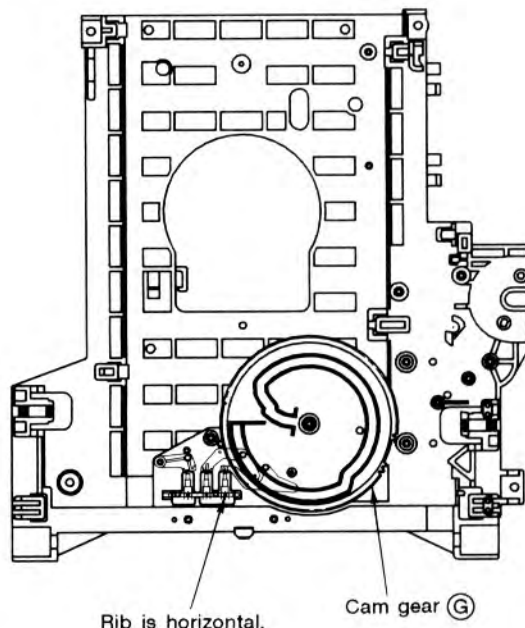

Fig. 2-9
2. Insert the cam gear ③ upon directing the rib horizontally as shown in Fig. 2-9.